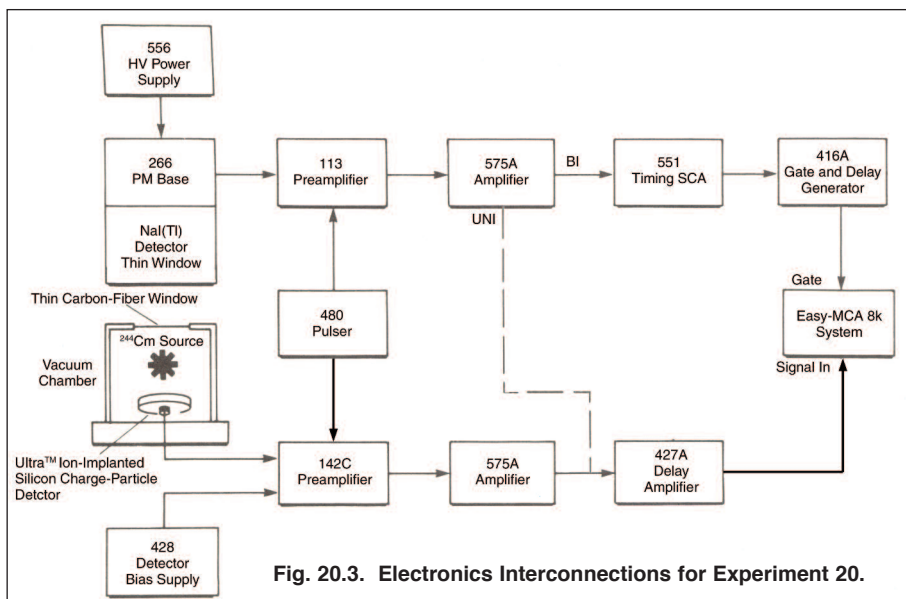

Fig. 20.3. Electronics Interconnections for Experiment 20.
1. Connect the system as shown in Fig. 20.3. Details are as follows:
- b. Connect the UNIpolar output of the 575A Amplifier on the NaI (TI) detector side of the circuit to the 427A Delay Amplifier INPUT, as shown by the broken line in Fig. 20.3.